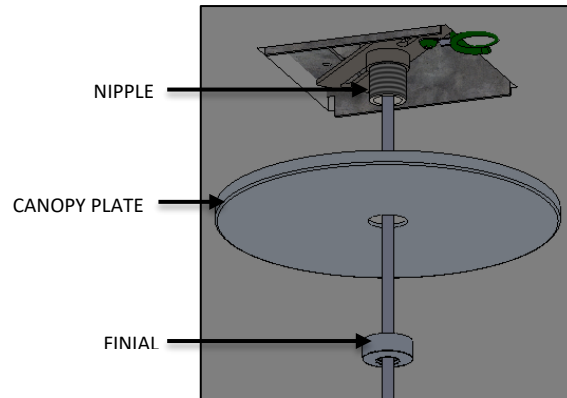

FIG. 33 – FINIAL ASSEMBLY
8. Raise CANOPY PLATE and secure to ceiling by threading the FINIAL to the NIPPLE (available in MOUNTING BRACKET ASSEMBLY) as shown below in FIG. 33.